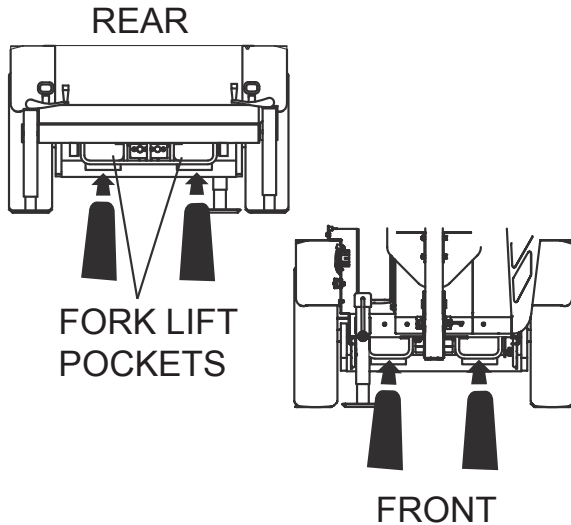

Figure 25. Inserting Forklift Forks (Front/Rear)
2. Insert the forklift forks into the fork pockets of the light tower either on the front or rear (Figure 25).